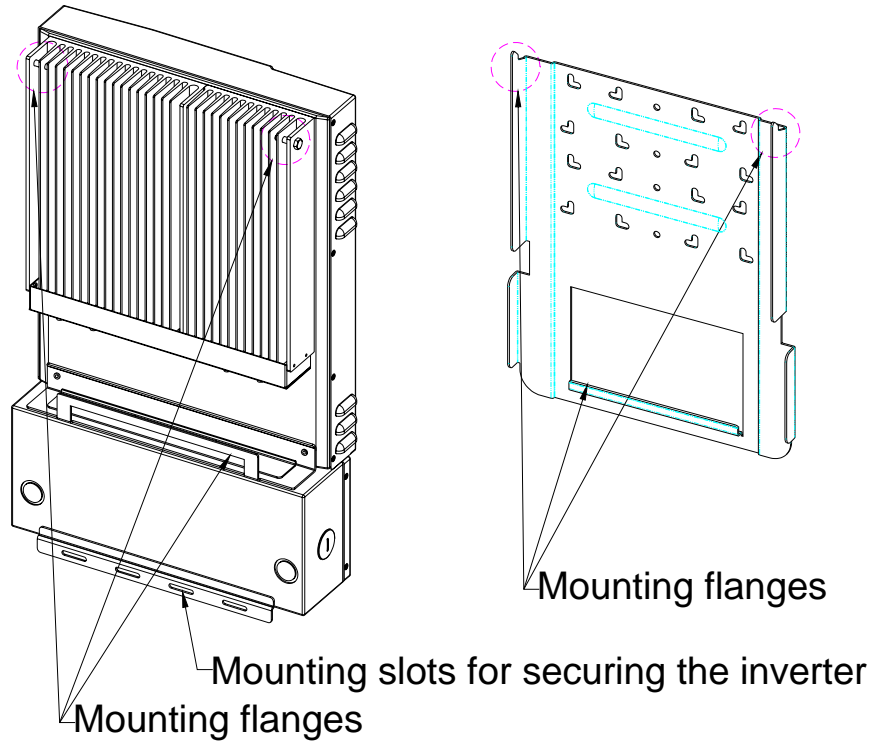

Fig 2.2.1 Remove the bracket from the inverter
- After taking the inverter out of the cardboard box, you will find the bracket in the bag behind the heatsink. First, the bracket needs to be removed from the inverter as shown in the figure 2.2.1 below.